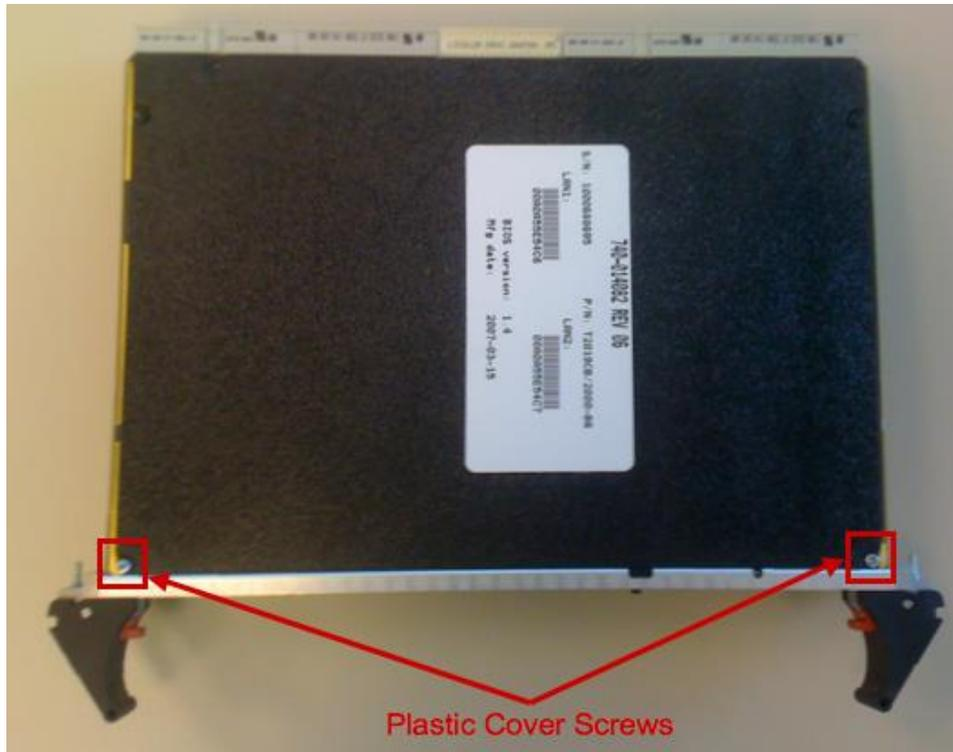

Figure 3-3: Plastic Cover Screws
3. Turn the RE-A-2000 over and remove the two screws holding the plastic cover over the hard drive retaining screws. See figure 3-3.